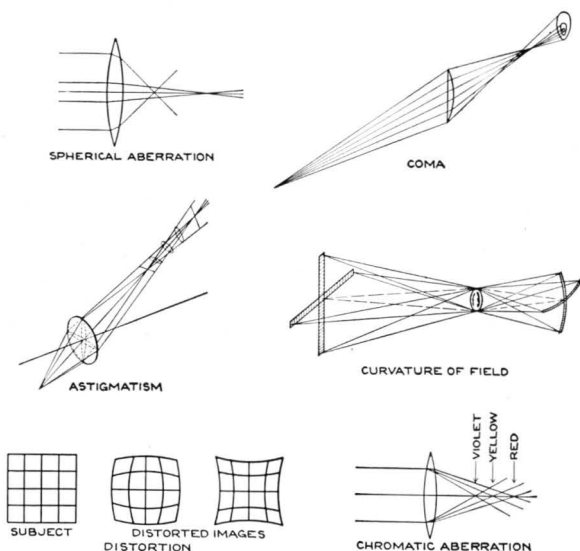

Figure 1—Lens Aberrations. The subject is to the left of the lens, image to the right. All aberrations are shown greatly exaggerated.
**Spherical Aberration:** In the case of a simple lens with spherical surfaces, the rays coming through the central portion of the lens and the rays coming through an outer zone do not converge at the same distance from the lens. As a result a point is imaged as a blur. The aberration is due to the fact that spherical surfaces are used on the lens, and is therefore called "spherical aberration." The effect of a small amount of this aberration on the image of an extended subject is to cover it with a haze of light. If present in large amounts, spherical aberration will spoil the sharpness and crispness of definition, approximately uniformly over the whole field. As the magnitude of this aberration usually rises rapidly with increased lens aperture, it becomes progressively more troublesome and harder to eliminate as the speed of a lens is increased. (See Figure 1.)
**Chromatic Aberration:** Because the degree of refraction or bending of a ray of light upon entering or leaving a polished glass surface varies with the color of the light, every property of a lens depends on color. Thus the position of the image itself changes slightly with the color or wave length of light (see Figure 1); this effect is known as axial or longitudinal chromatic aberration. Fortunately, it is possible to reduce this deficiency greatly by using the proper combination of two or more different kinds of glass in a lens.